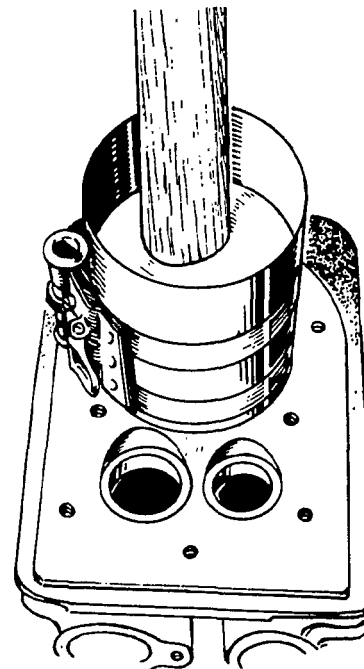

FIGURE 27. INSTALLING PISTON AND CONNECTING ROD
2. Lubricate the number one piston assembly and inside of the cylinder. Compress the rings with a ring compressor (Figure 27).
4. Tap the piston down into the bore with the handle end of a hammer until the connecting rod is seated on the journal (Figure 27). Install the bearing cap on the rod. Install one fastener and tighten to 5 ft-lbs (7 Nm). Repeat this for the other fastener. Tighten both fasteners down to 14 ft-lbs (19 Nm).